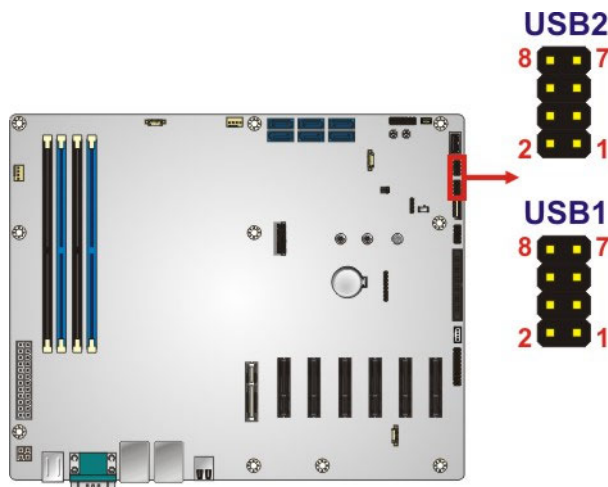

Figure 3-27: USB 2.0 Connector Locations
- CN Location:** See **Figure 3-27**